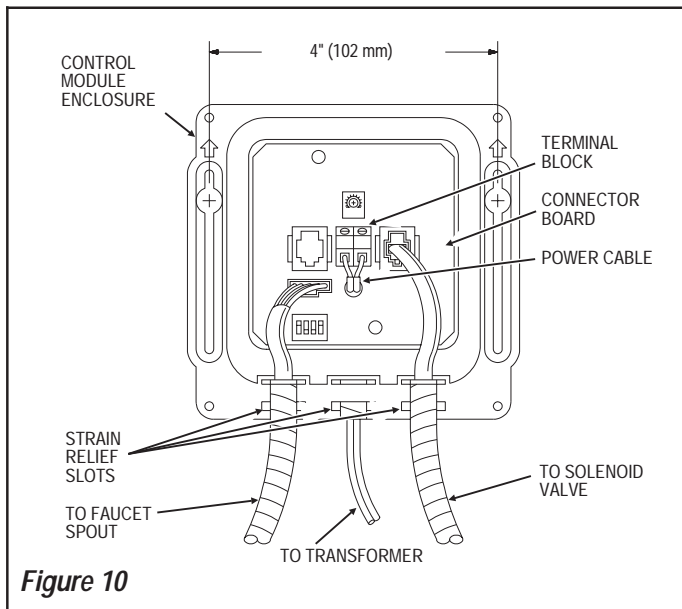

Figure 10
Separate and strip one end of Transformer Power Cable approximately 3/16 to 1/4 inch (5 to 6 mm). Install Transformer Strain Relief 3 inches (76 mm) from stripped end of Power Cable. Squeeze Strain Relief with a pliers and insert Power Cable and Strain Relief into 3/8 inch (10 mm) hole at back of Control Module as shown in Figure 7. Always install right angle Strain Relief so that Power Cable enters the Control Module from the bottom. Connect Power Cable to Terminal Block on Connector Board as shown in Figure 10.
**Step 7 — Control Module Connection (Figures 10 thru 12)**